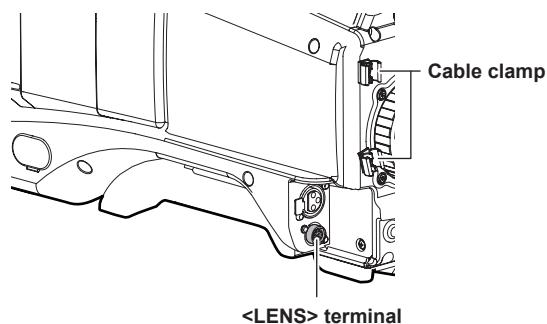

Fig. 4
**4** Secure the cable through the cable clamp and connect it to the <LENS> terminal. (Fig. 4)